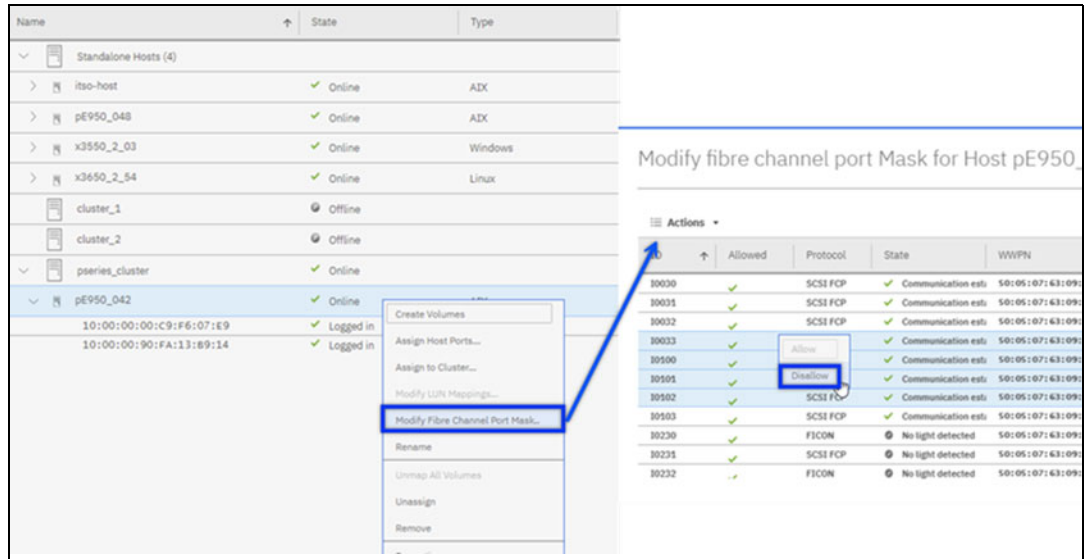

Figure 9-62 Modifying the Fibre Channel Port Mask
2. Select one or more ports to disallow. You can use the Ctrl or Shift key for multiple selections. Click **Save**, as shown in Figure 9-62 on page 271.